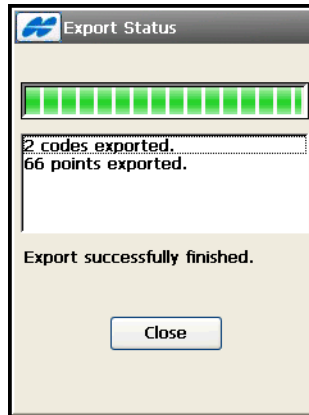

Figure 4-22. Export Status
- The ok  button – press to start the export process (Figure 4-22 on page 4-21).
- The ok  button opens the *Export Status* screen and starts the export process. (See Figure 4-22 on page 4-21.)
- The ok  button opens the *Export Status* screen and starts the Export process (see Figure 4-22.)
On the **Export Status** screen (Figure 4-22), tap the **Close** button to return to main screen.